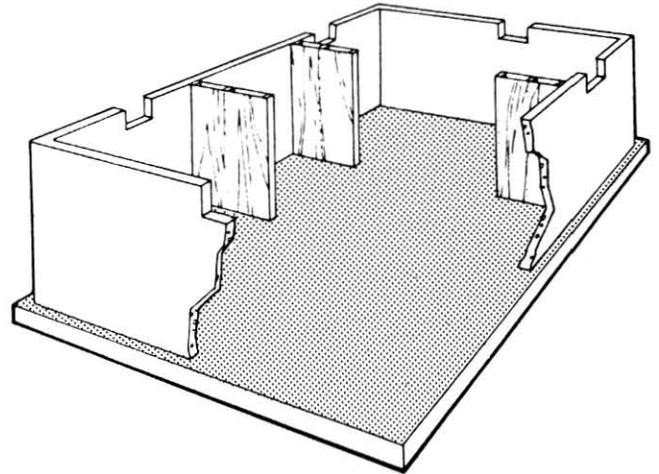

Figure 6-4
3. Install shear partitions that intersect and support midspan sections of basement walls and floors. A shear partition is a plywood-sheathed 2x4-framed wall fastened to the basement wall, slab, and floor above. It extends at least 4 feet in from the basement wall (See Figure 6-4.). See a structural engineer.